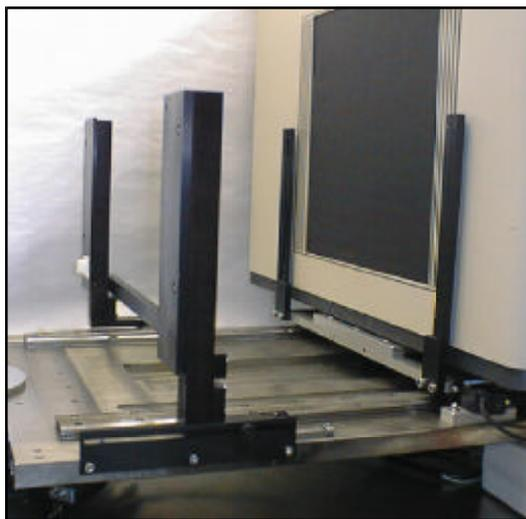

Figure 2-29. Support plates mounted with accessory screws.
- 1) Install the two sets of helium beam path retention support plates (X-ray side and detector side) with the accessory screws, as shown in Figure 2-29. Set the crystal-to-detector distance to approximately 200 mm.